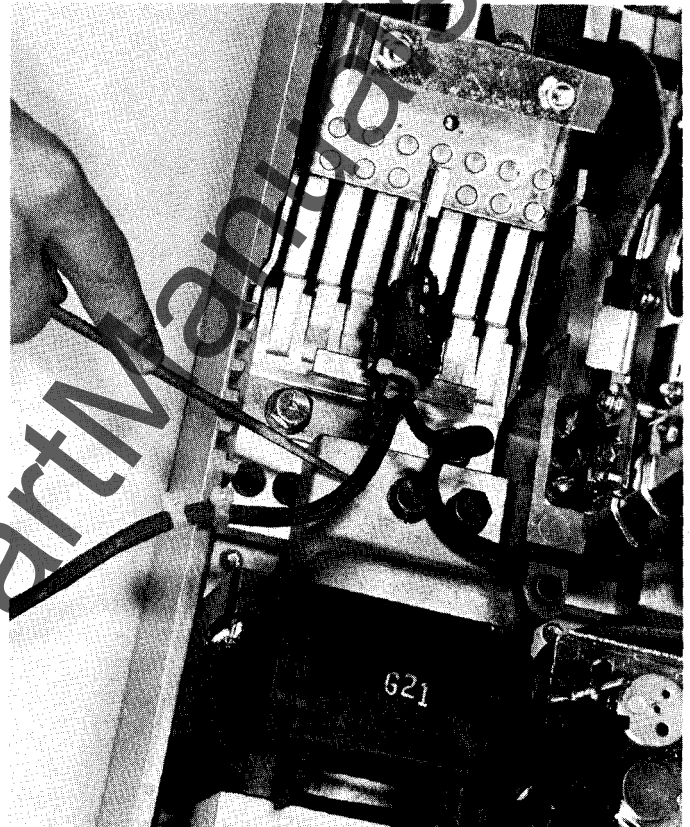

Figure 36.
2. Remove appropriate knockout(s) in the breaker base using a 1/4" round file as shown in Figure 36. Remove all debris from the breaker.